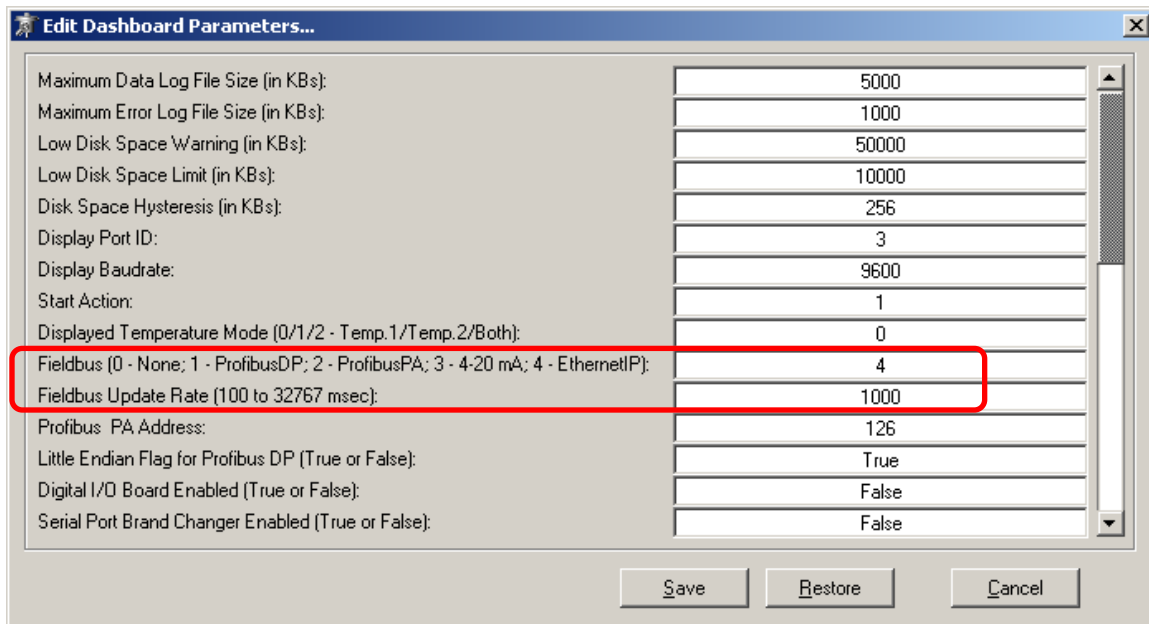

Figure: 1
3. The VS-3000 DASHBOARD program will already be running minimized on the Windows desktop. Maximize the program and click **Edit**>>Dashboard Parameters. Verify the number in the *Fieldbus* row; it should be "4" for EtherNet/IP. See the *Figure: 1* below.